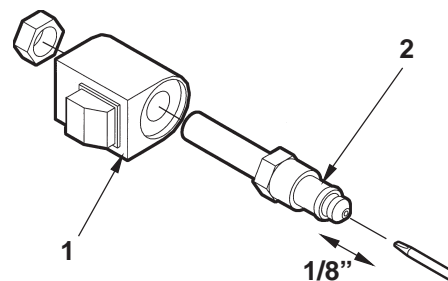

FIG. 47-2
4. Check the Valve Stem by removing the Coil Assembly (**Item 1, FIG. 47-2**). With platform supported, unscrew the Valve Stem (**Item 2, FIG. 47-2**) from the Pump. Push on the plunger located inside the Valve Stem by inserting a small screwdriver blade in the end. If the Plunger does not move freely (approximately 1/8") replace the Valve Stem.